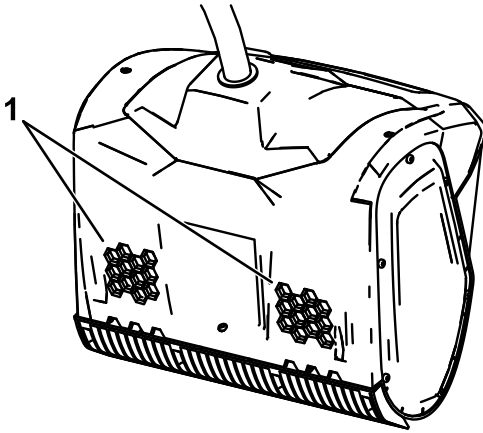

Figure 7
1. Ensure that the vents on the back of the machine are clear of any snow or ice (Figure 7).